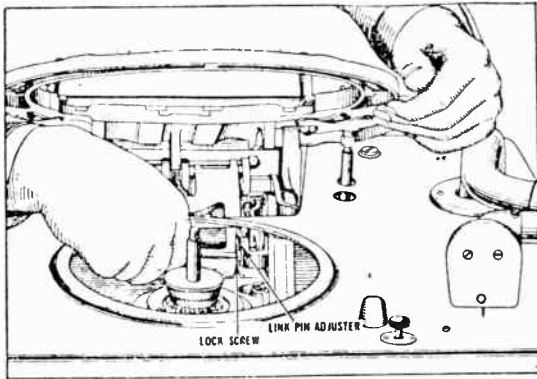

Fig. 4 - Adjusting Link Pin Adjuster
- b. Loosen the lock screw in the link pin adjuster as shown in Fig. 4.